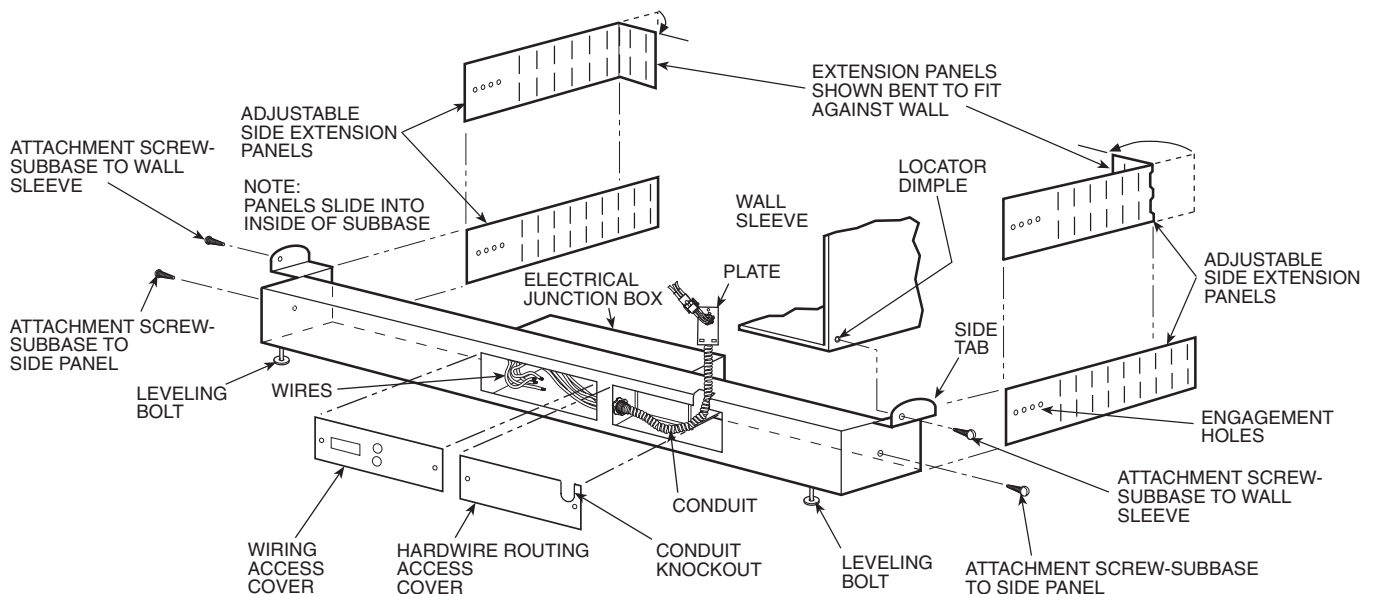

Fig. 1 — Hardwire Electrical Subbase Assembly
The hardwire electrical subbase has a factory-installed electrical junction box with 19 in. of flexible conduit attached for use with packaged terminal air conditioner (PTAC) units. See Fig. 1.
Step 2 — Prepare wall sleeve. Drill one 1/8 in. hole on each side of wall sleeve. If installing plastic sleeve, use locator dimple on outside of sleeve. Drilling can be done through the plastic from inside if desired. See Fig. 1.
Step 4 — Attach Side Extension Panels to subbase using one black screw on each side so that panel end extends dimension X plus 2 in. from front of subbase. To adjust side panel, simply bend panel at slot position. See Fig. 1 and 3.
NOTE: Use engagement holes for more exact fit to wall. See Fig. 1.
Step 5 — Remove both access covers and screws. Set aside for later use. See Fig. 1.
Step 6 — Remove the half circle conduit knockout from the hardwire routing access cover. See Fig. 1. This will provide additional space to route conduit out of subbase to unit.
Step 7 — Route conduit out through the rectangular conduit notch located on top front of the subbase. See Fig. 1.